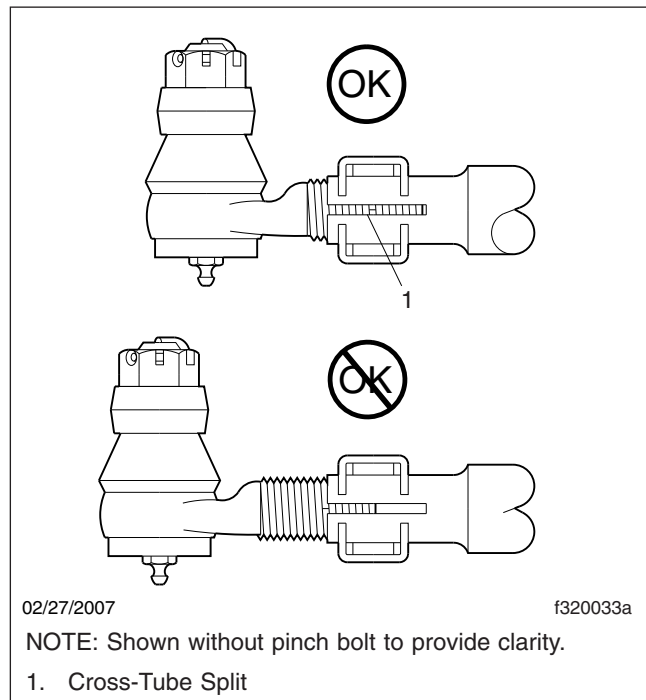

Fig. 5, Tie-Rod End Adjustment
3. The threaded portion of the tie-rod end assembly must be inserted all the way into the cross-tube split for adequate clamping. See Fig. 5. Replace the components if this cannot be done. For instructions, refer to **Group 33** of the *108SD and 114SD Workshop Manual*.